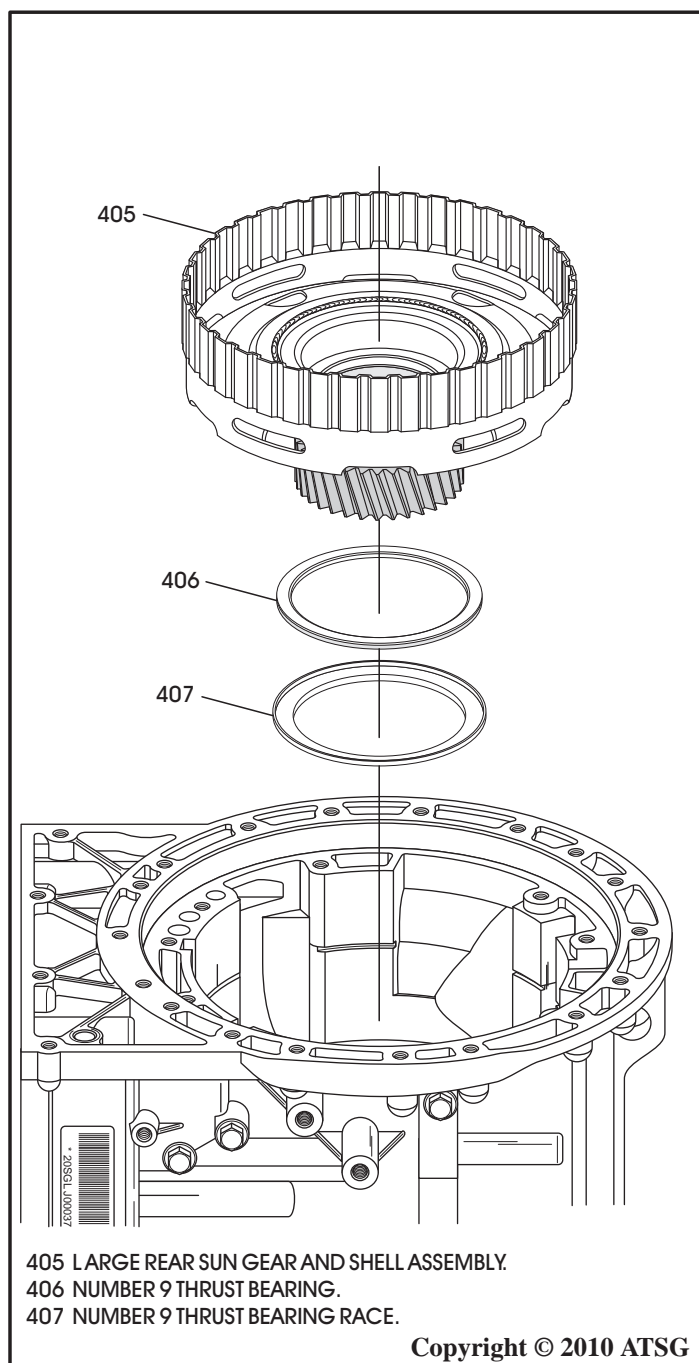

Figure 62
48. Remove large rear sun gear and shell assembly, as shown in Figure 62.
49. Remove the number 9 thrust bearing and thrust thrust bearing race, as shown in Figure 62.